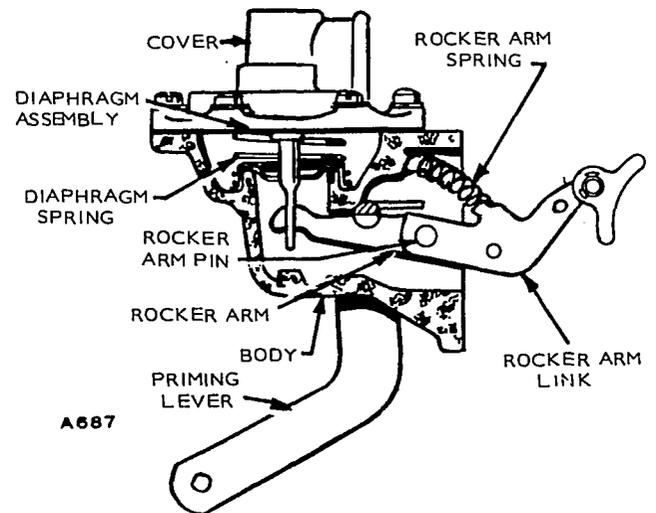

FIGURE 11. FUEL TRANSFER PUMP
The fuel transfer pump (Figure 11) is a diaphragm and check valve type pump operated by a cam lobe on the engine camshaft. The pump cam follower has a wide surface to prevent wear as it rides on the camshaft lobe. The priming lever is manually operated to prime and bleed the system.
Repair: Transfer pump failure is usually due to a leaking diaphragm, valve or valve gasket, Figure 11. A kit is available for replacement of these parts. Because the extent of wear cannot be detected by the eye, replace all parts in the kit. If the diaphragm is broken, or leaks, check for diluted crankcase oil and replace.
2. Insert link and rocker arm into body and hook it over diaphragm pull rod. Align rocker arm with rocker arm pin hole and drive in pin. The priming lever must be in position shown in Figure 11 when installing rocker arm.